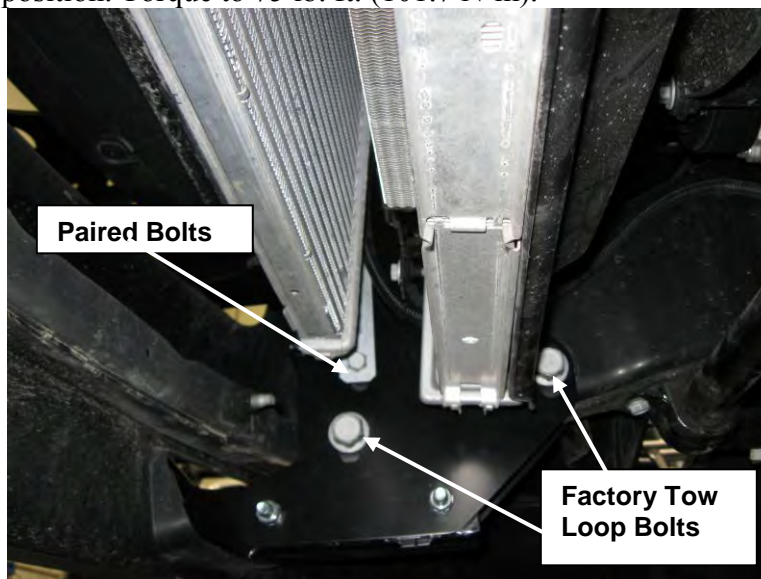

Figure 9: Large Frame Carrier: Bolt Positions.
19. Tighten all 4 nuts on the paired bolts and torque to 50 lb. ft. (67.8 N-m). See **Figure 9**.
21. Tighten the 4 remaining bolts at the bottom of the frame extension brackets and torque to 50 lb. ft. (67.8 N-m). See **Figure 9**.